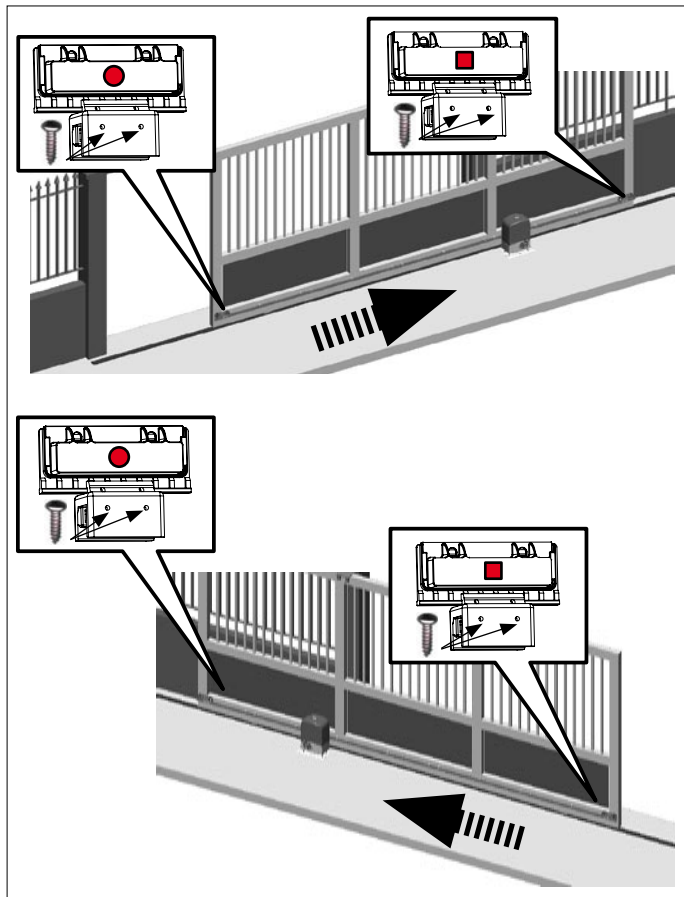

Fig.18
Important: For correct functioning of the operator, the magnet with the circle must be positioned to the right of the motor and, vice versa, the magnet with the square must be positioned to the left of the motor (SEE FIGURE 18)
- 1) Assemble the two magnets as indicated in figure 18.